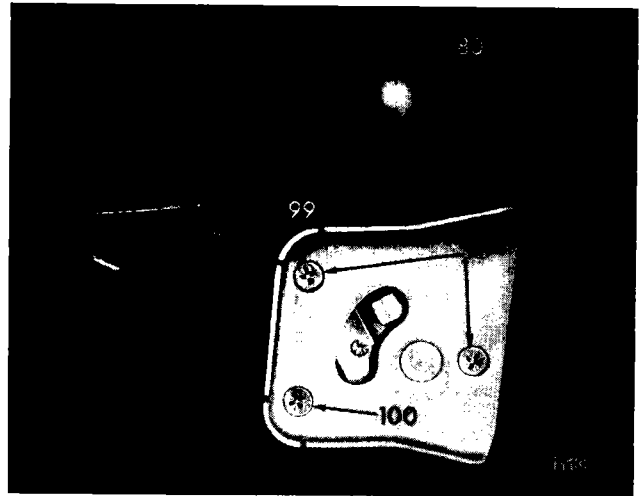

Fig. 69. Dovetail plate/lock attachment
1. **To Remove** (Figs. 69 and 70)
- (c) Release the handle by unscrewing two screws, one (99) is situated adjacent to the dovetail plate shown in Fig. 69, the other screw is located on the inside of the door panel at the forward end of the handle.